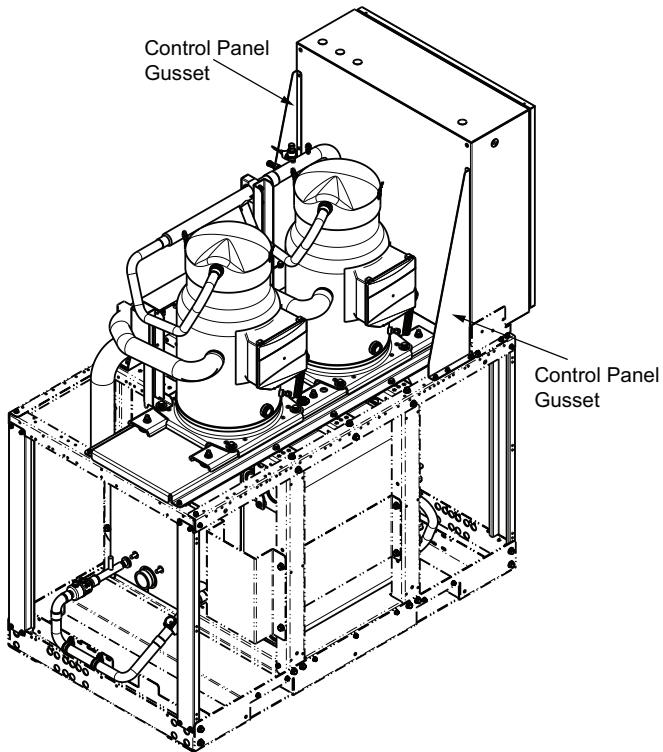

Fig. 3 — Control Box Gusset Removal
1. Remove the 2 triangular gussets that are mounted to the control panel and discard. Each gusset is mounted with 2 screws located inside the control panel and 2 screws to the unit frame. See Fig. 3 and 4 for gusset removal and screw hole locations.